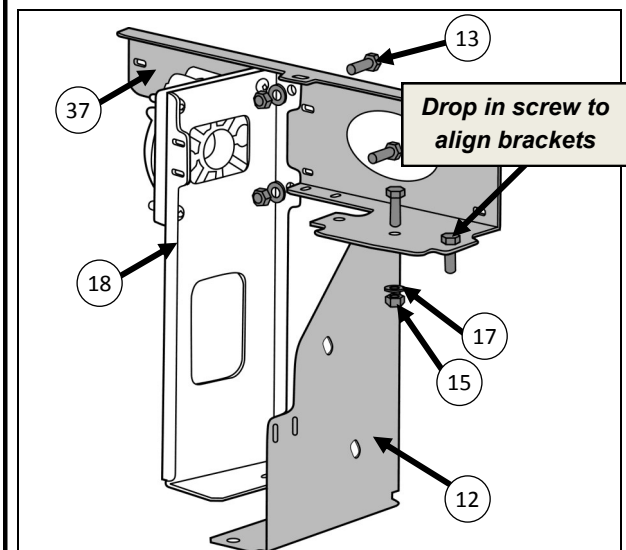

Figure 11: Assemble Contactor Bracket Assy
- Align with 2X mounting holes on OLI bracket (Item 18) as shown in Figure 11 and fasten using 2X Screw Hex M6 x 1.0P X 20 (Item 13), 2X Washer Flat M6 (Item 17) and 2X Nut Hex Nyloc M6 x 1.0P (Item 15).